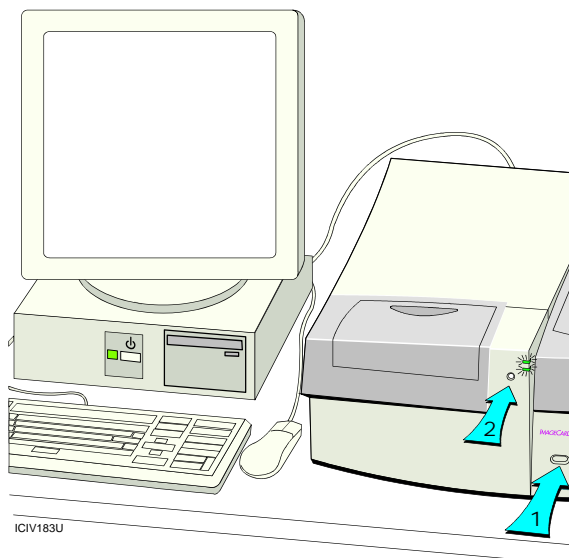

Figure 8-3: Press and hold Ready button (1) and then Press Power switch (2)
- 3 Press and hold the Ready button (1), and then power on the printer (2) as shown in Figure 8-3. Hold the Ready button until the printer sounds three tones, usually 5 to 10 seconds.